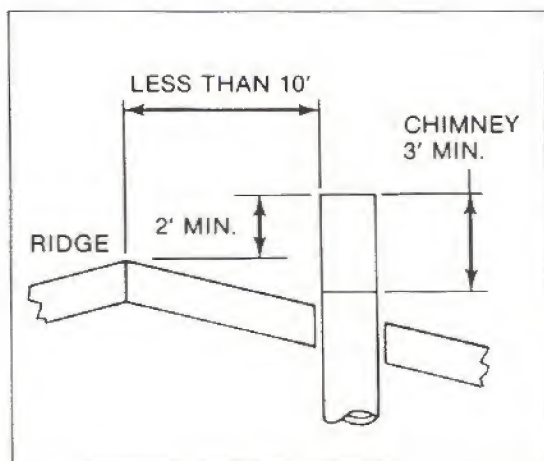

Figure 9
1. If the horizontal distance from the side of the chimney to the peak of the roof is 10 feet or less, the top of the chimney must be at least 2 feet above the peak of the roof, but never less than 3 feet in height above the highest point where it passes through the roof. See Figure 9.